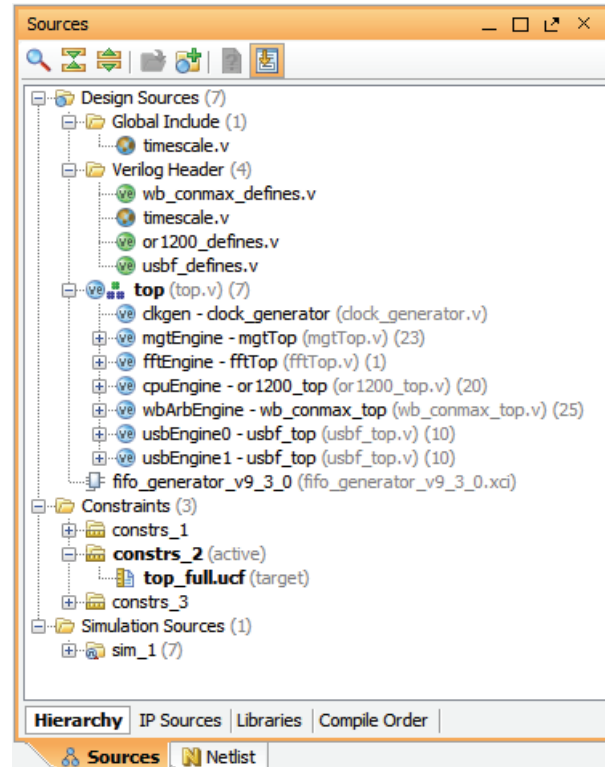

Figure 4-38: Sources View
Generally, the Sources view is open in the PlanAhead tool whenever a project is open. However, to open the Sources view select **Windows > Sources**. Figure 4-38 shows an example of the Sources view.
- The Hierarchy tab displays the hierarchical view of the design sources, starting with the top module. The top module defines the hierarchy of the design for compilation, synthesis and implementation. It is identified with a special icon in the Sources view as shown in Figure 4-38. The PlanAhead tool automatically detects the top module, but you can also manually define the top module using the **Set as Top** command (see Sources View Popup Menu, page 131).
The toolbar menu, as shown in Figure 4-38, page 129, contains the following commands: